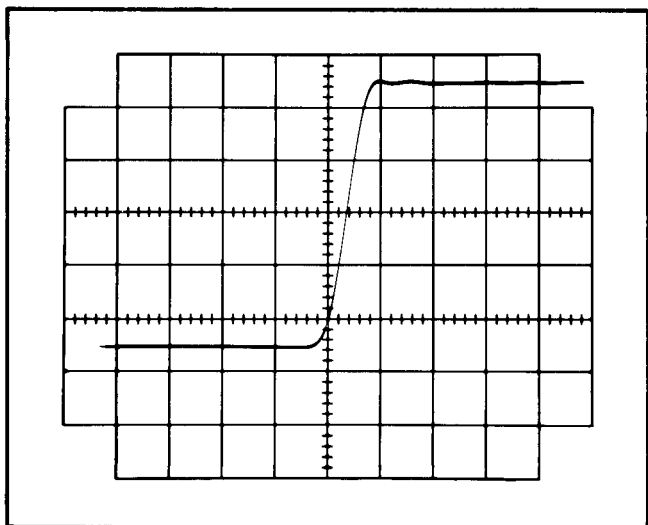

Fig. 5-13. Correct positioning of Upper Beam waveform for risetime check.
- a. Requirement—Risetime of the 10% to 90% portion of the rising portion should be 6.93 nanoseconds or less with the test load unit pulse risetime of 3 nanoseconds. Fig. 5-13 shows a typical display.
- c. With the TRACE SEPARATION and Upper Beam POSITION controls, position the Upper Beam 5-cm display so that the 10% point on the rising portion of the waveform crosses the intersection of the Upper Beam graticule center horizontal line with the graticule center vertical line. Fig. 5-13 shows the correct positioning of the display.